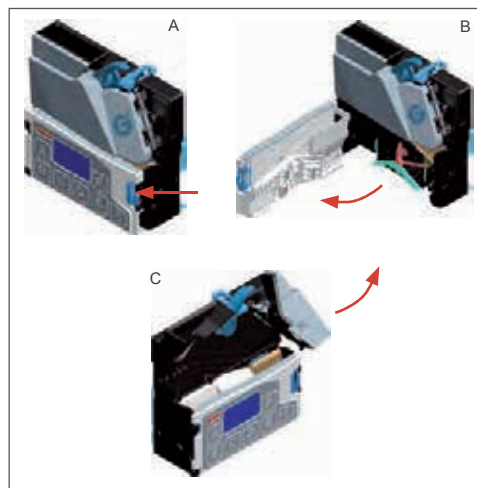

Fig. 3: Opening coin validator's sorter cover and flight deck
- 2 Unlatch sorter cover (blue latch on the right of the display) and swing it open (Fig. 3, A&B).
- 3 Open flight deck at the insert funnel and hold it open (Fig. 3, C).